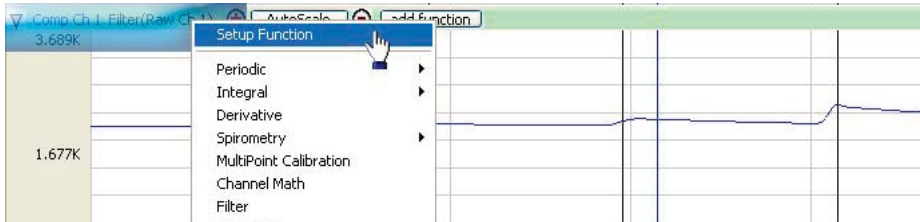

Fig. 51— Edit the function settings of a previously modified channel
**TIP:** To change the parameters of a function, click on the name of the configured channel (highlighted region of Fig. 51) to display the popup menu and select **Setup Function**. The function dialog box appears with the previous settings. Edit the settings, as desired, and click the **OK** button. The changes will display in the channel on the main LabScribe window.